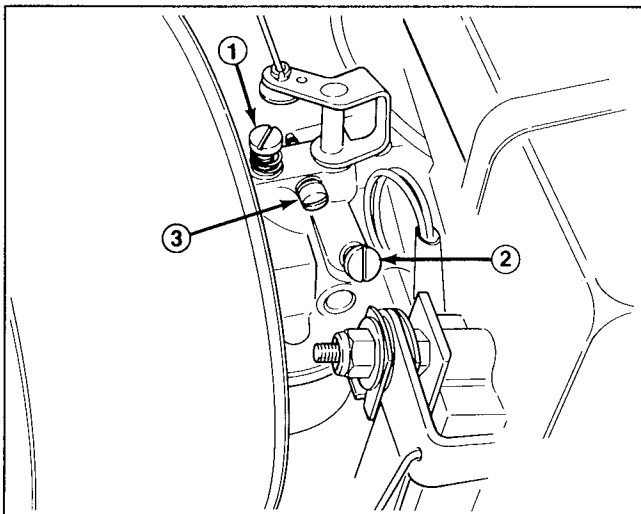

Figure 34
1. Main fuel screw (Fig. 34) — Close screw by gently rotating it clockwise.
3. Idle fuel adjusting screw (Fig. 34) — Close screw by gently rotating it clockwise. Open screw by rotating it 2-1/2 turns counterclockwise.
7. Idle Speed Setting (Fig. 34) — Run engine at half-throttle for 5-10 minutes to warm up. Move throttle to SLOW and set engine speed to 1300 RPM by turning the idle speed adjusting screw clockwise or counterclockwise.